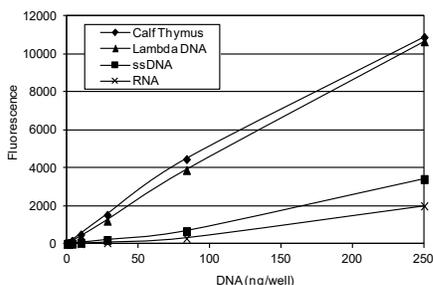

Figure 2. Selectivity of AccuClear® dsDNA quantitation assay for double-stranded DNA compared to single stranded DNA and single-stranded RNA.
AccuClear® Ultra High Sensitivity dsDNA Quantitation Kits provide highly sensitive and accurate DNA quantitation across a broad range of DNA concentrations. Unlike absorbance-based measurements, AccuClear® dye is highly selective for double-stranded DNA over single stranded DNA or RNA (Figure 2). The assay is linear between 0.03 ng and 250 ng of dsDNA per assay (3 pg/uL to 25 ng/uL sample concentration) in 96-well microplate format (Figure 3).
9. To determine the unknown DNA concentration generate a standard curve (see Figure 3). Average the triplicate values for each standard sample and subtract the average zero DNA value from each data point. Plot the fluorescence values for the DNA standards on the y-axis and ng/well DNA on the x-axis, and fit a trend line through these points to generate a standard curve with a y-intercept = 0. Use the equation for the standard curve trend line to calculate the amount of unknown DNA in each well (y = fluorescence and x = ng DNA per well). Note: the standard curve shown in Figure 2 is for reference only. You must generate your own standard curve using your instrument to calculate the amount of DNA in your unknown samples.
Calf thymus DNA can serve as a reference for most plant and animal DNA because it is double-stranded, highly polymerized and is approximately 58% AT (42% GC). Lambda dsDNA yields similar results (Figure 2). You may wish to use a standard similar to your unknown samples in DNA length, structure (i.e., linear vs. circular), or GC content. For bacterial DNA, a species-specific standard may be desired because the GC content varies widely depending on the species. The AccuClear® dsDNA Quantitation Solution is available without standards (cat. no. 31027) for customers who wish to prepare their own standards.